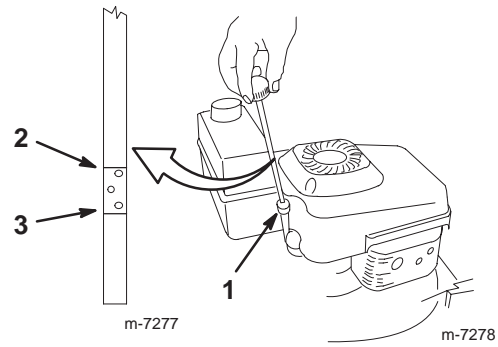

Figure 7
Before each use, ensure that the oil level is between the Add and Full marks on the dipstick (Fig. 7).
- Clean around the dipstick (Fig. 7).
- Read the oil level on the dipstick (Fig. 7).